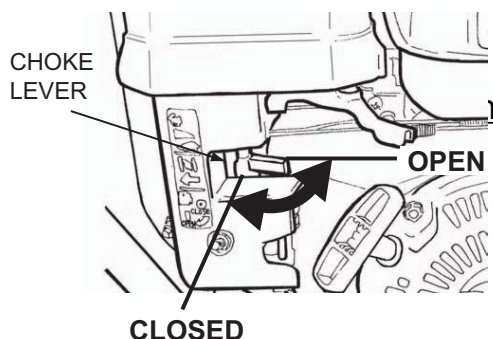

Figure 12. Choke Lever
3. Place the Choke Lever (Figure 12) in the "OPEN" position.